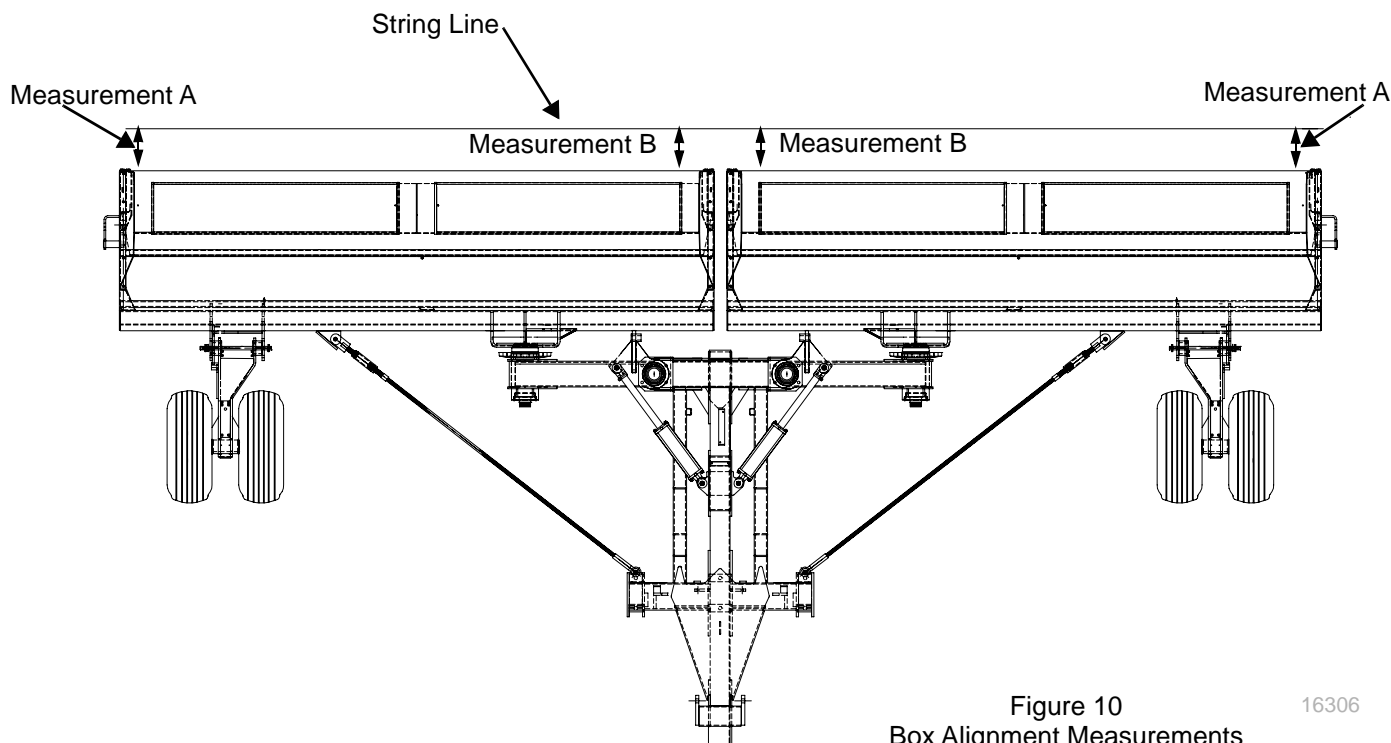

Figure 10
2. Extend a string line to the outer ends of the wing boxes as shown in Figure 10. Measure from the